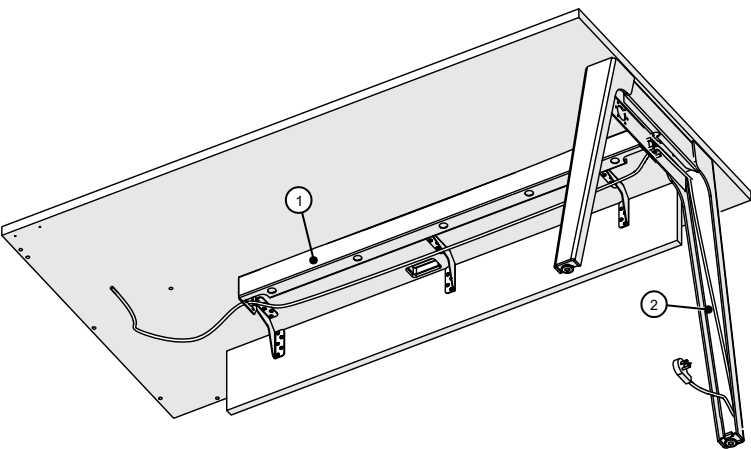

Figure 1
- 1. Fish wires and cables through holes of the table support beam or grommet hole: lay-in the wires and cables, (Figure 1).